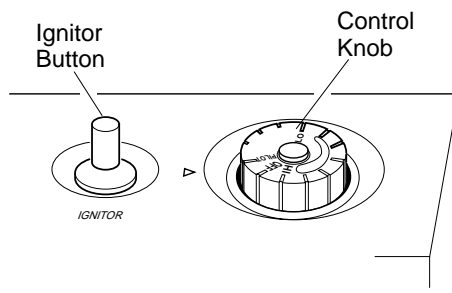

Figure 23 - Control Knob In The OFF Position
- Wait five (5) minutes to clear out any gas. Then smell for gas, including near the floor. If you smell gas, **STOP!** Follow "B" in the safety information. If you don't smell gas, go to the next step.
- Turn control knob counterclockwise to the PILOT position. Press in control knob for five (5) seconds (see Figure 23).